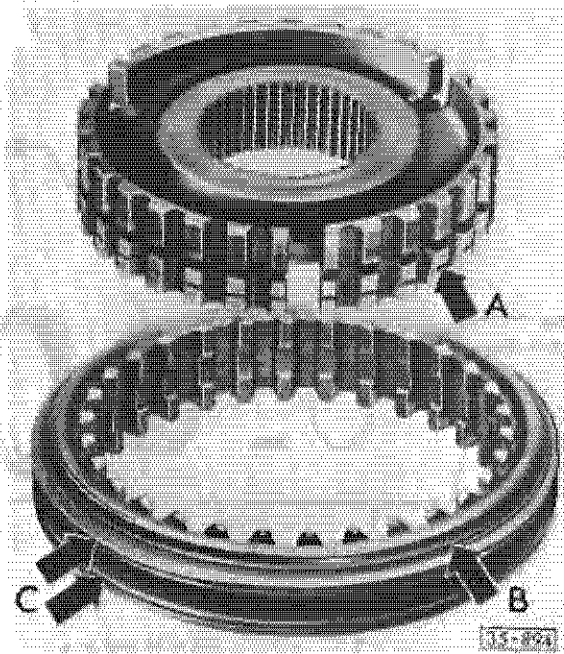

Fig. 3 Synchronizer 4th/5th gear, assembling
- identification groove on sleeve (Fig. 3, arrow B) faces 4th gear